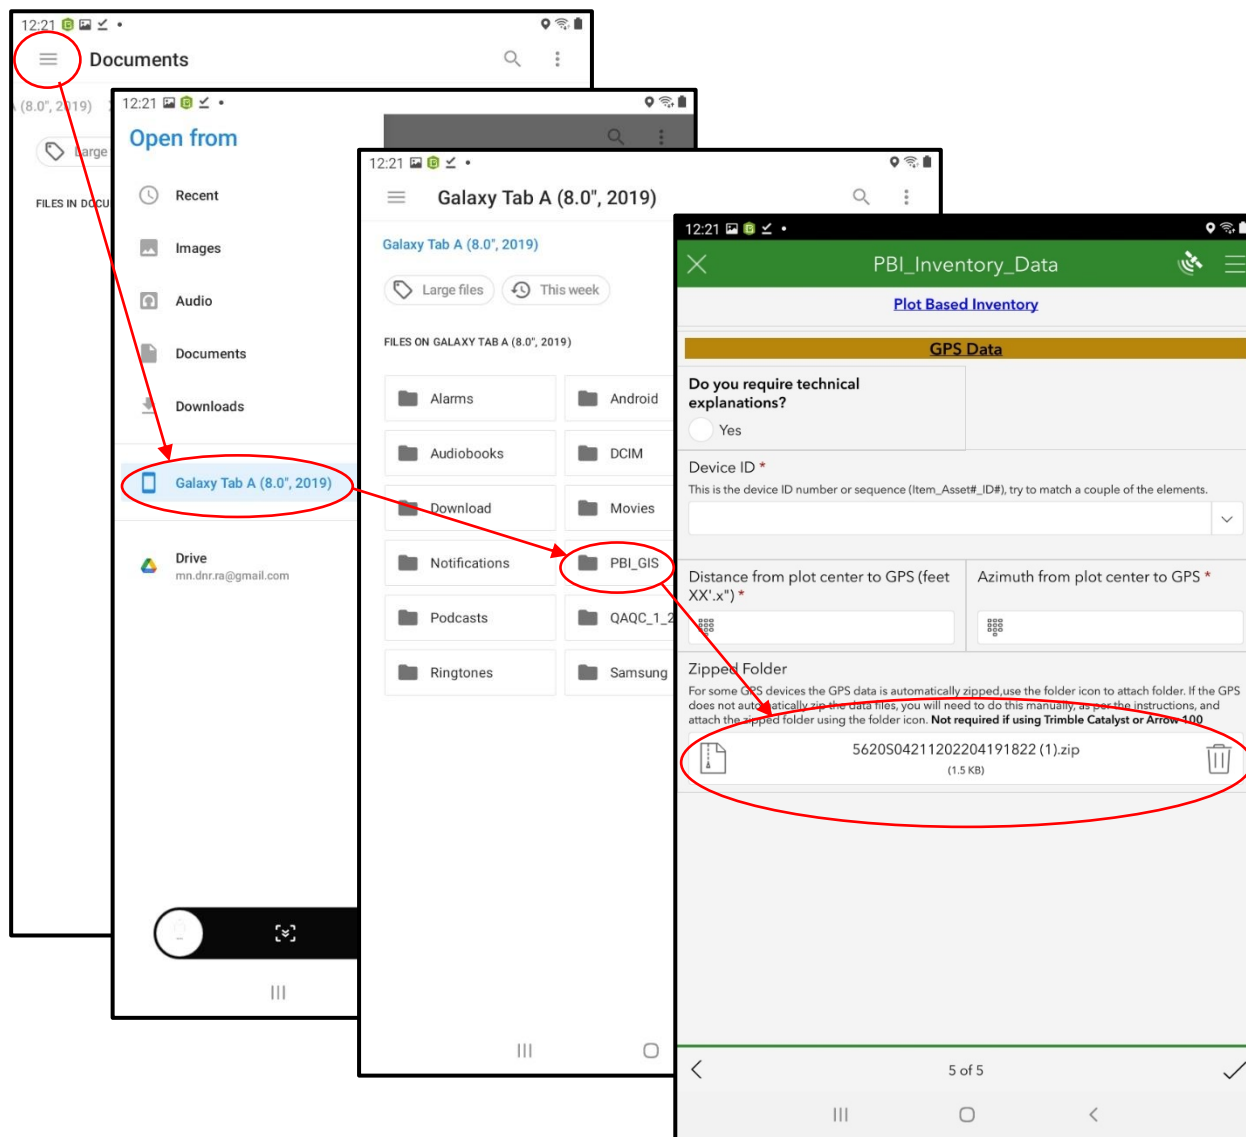

Figure 43. Figure showing Samsung Galaxy Tab A workflow for Attaching GPS File to Survey 123 with red circles and arrows showing the workflow
- i. **Samsung Galaxy Tab A** (Figure 43)